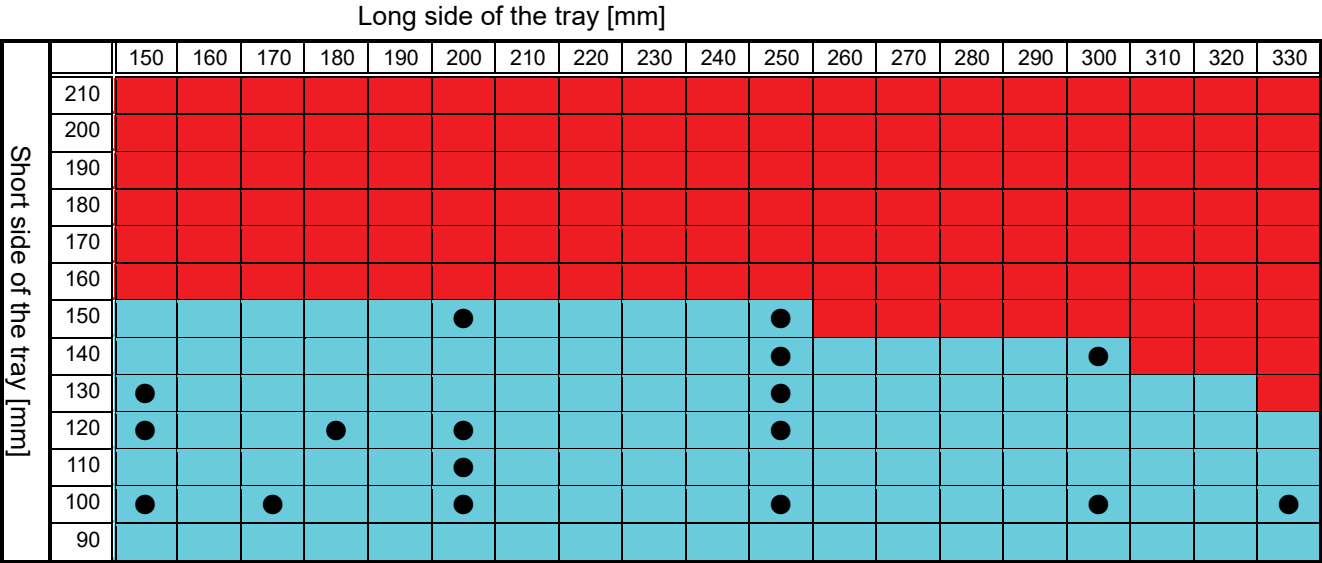

Figure 7
- Possible ranges of wrapping for each film width are given in Figures 7 through 12 under the condition of selected film material: vinyl chloride (MS-1), wrapping capability: high speed, and tray shape: standard.